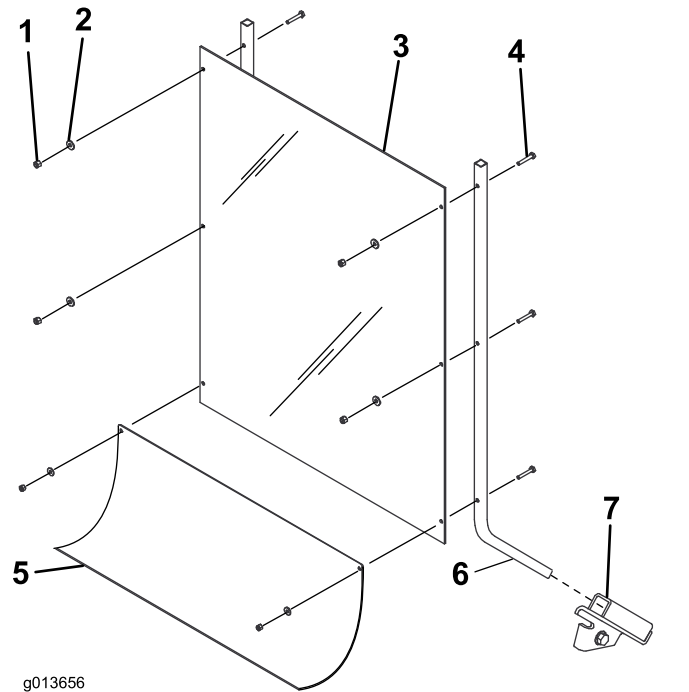

Figure 6
1. Slide the shield supports into the pockets in the shield brackets on the traction unit (Figure 6).
- Assemble the shield and flexible skirt to the shield supports as illustrated in Figure 6, using 6 bolts (1/4 x 1-1/2 inch), washers, and locknuts (1/4 inch).